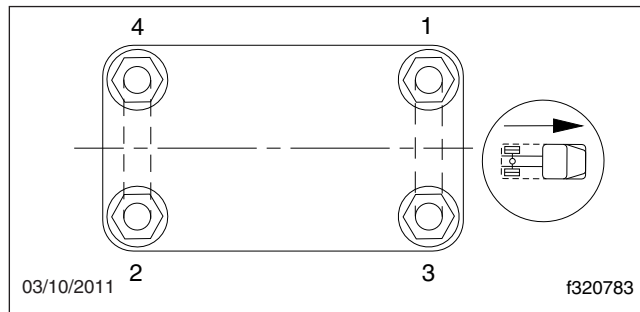

Fig. 10, Tightening Pattern for U-Bolt High Nuts
* Tighten in a diagonal pattern as shown in Fig. 10.